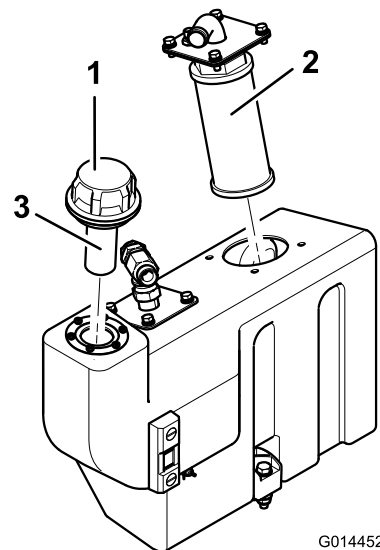

Figure 73
1. Remove the oil tank suction flange to gain access to the suction strainer (Figure 73).
2. Unscrew and remove the strainer and clean with paraffin or petrol before installing (Figure 73).